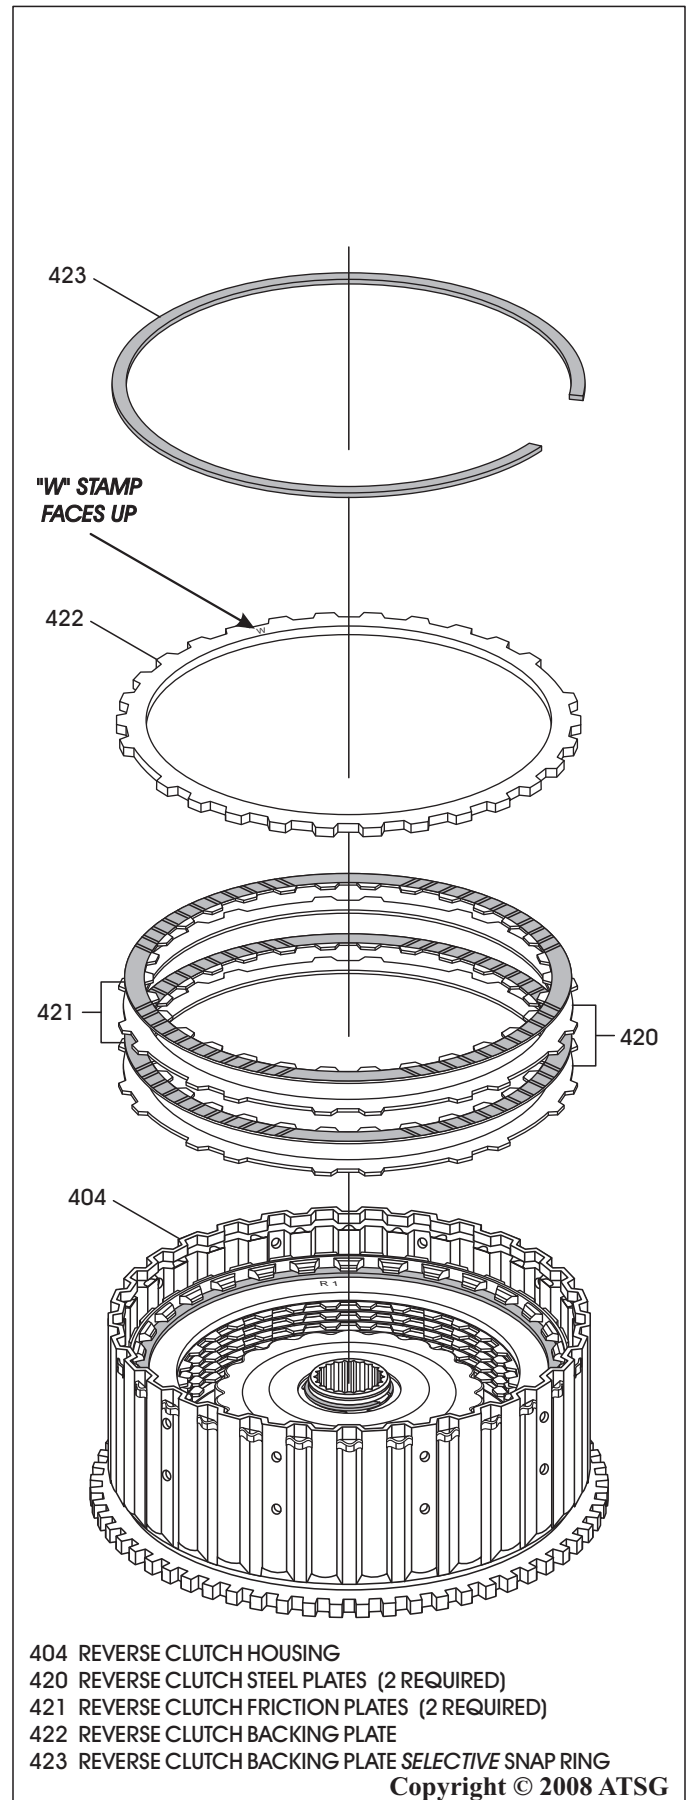

Figure 98
23. Install the reverse clutch plates beginning with a steel plate and alternating with frictions, as shown in Figure 98.
24. Install the reverse clutch backing plate, as shown in Figure 98, and the "W" stamp must face up as shown, and must be oriented the same as the steel plates.
25. Install the reverse clutch selective snap ring, as shown in Figure 98.